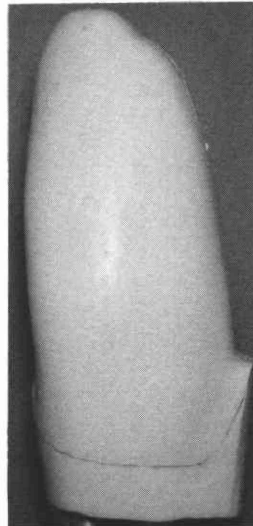

Figure 10. Lateral view.
8. Seat need not be wide, but sharp edges must be avoided (Figure 10). The ischium will bear on flare of socket, both medial and posterior.